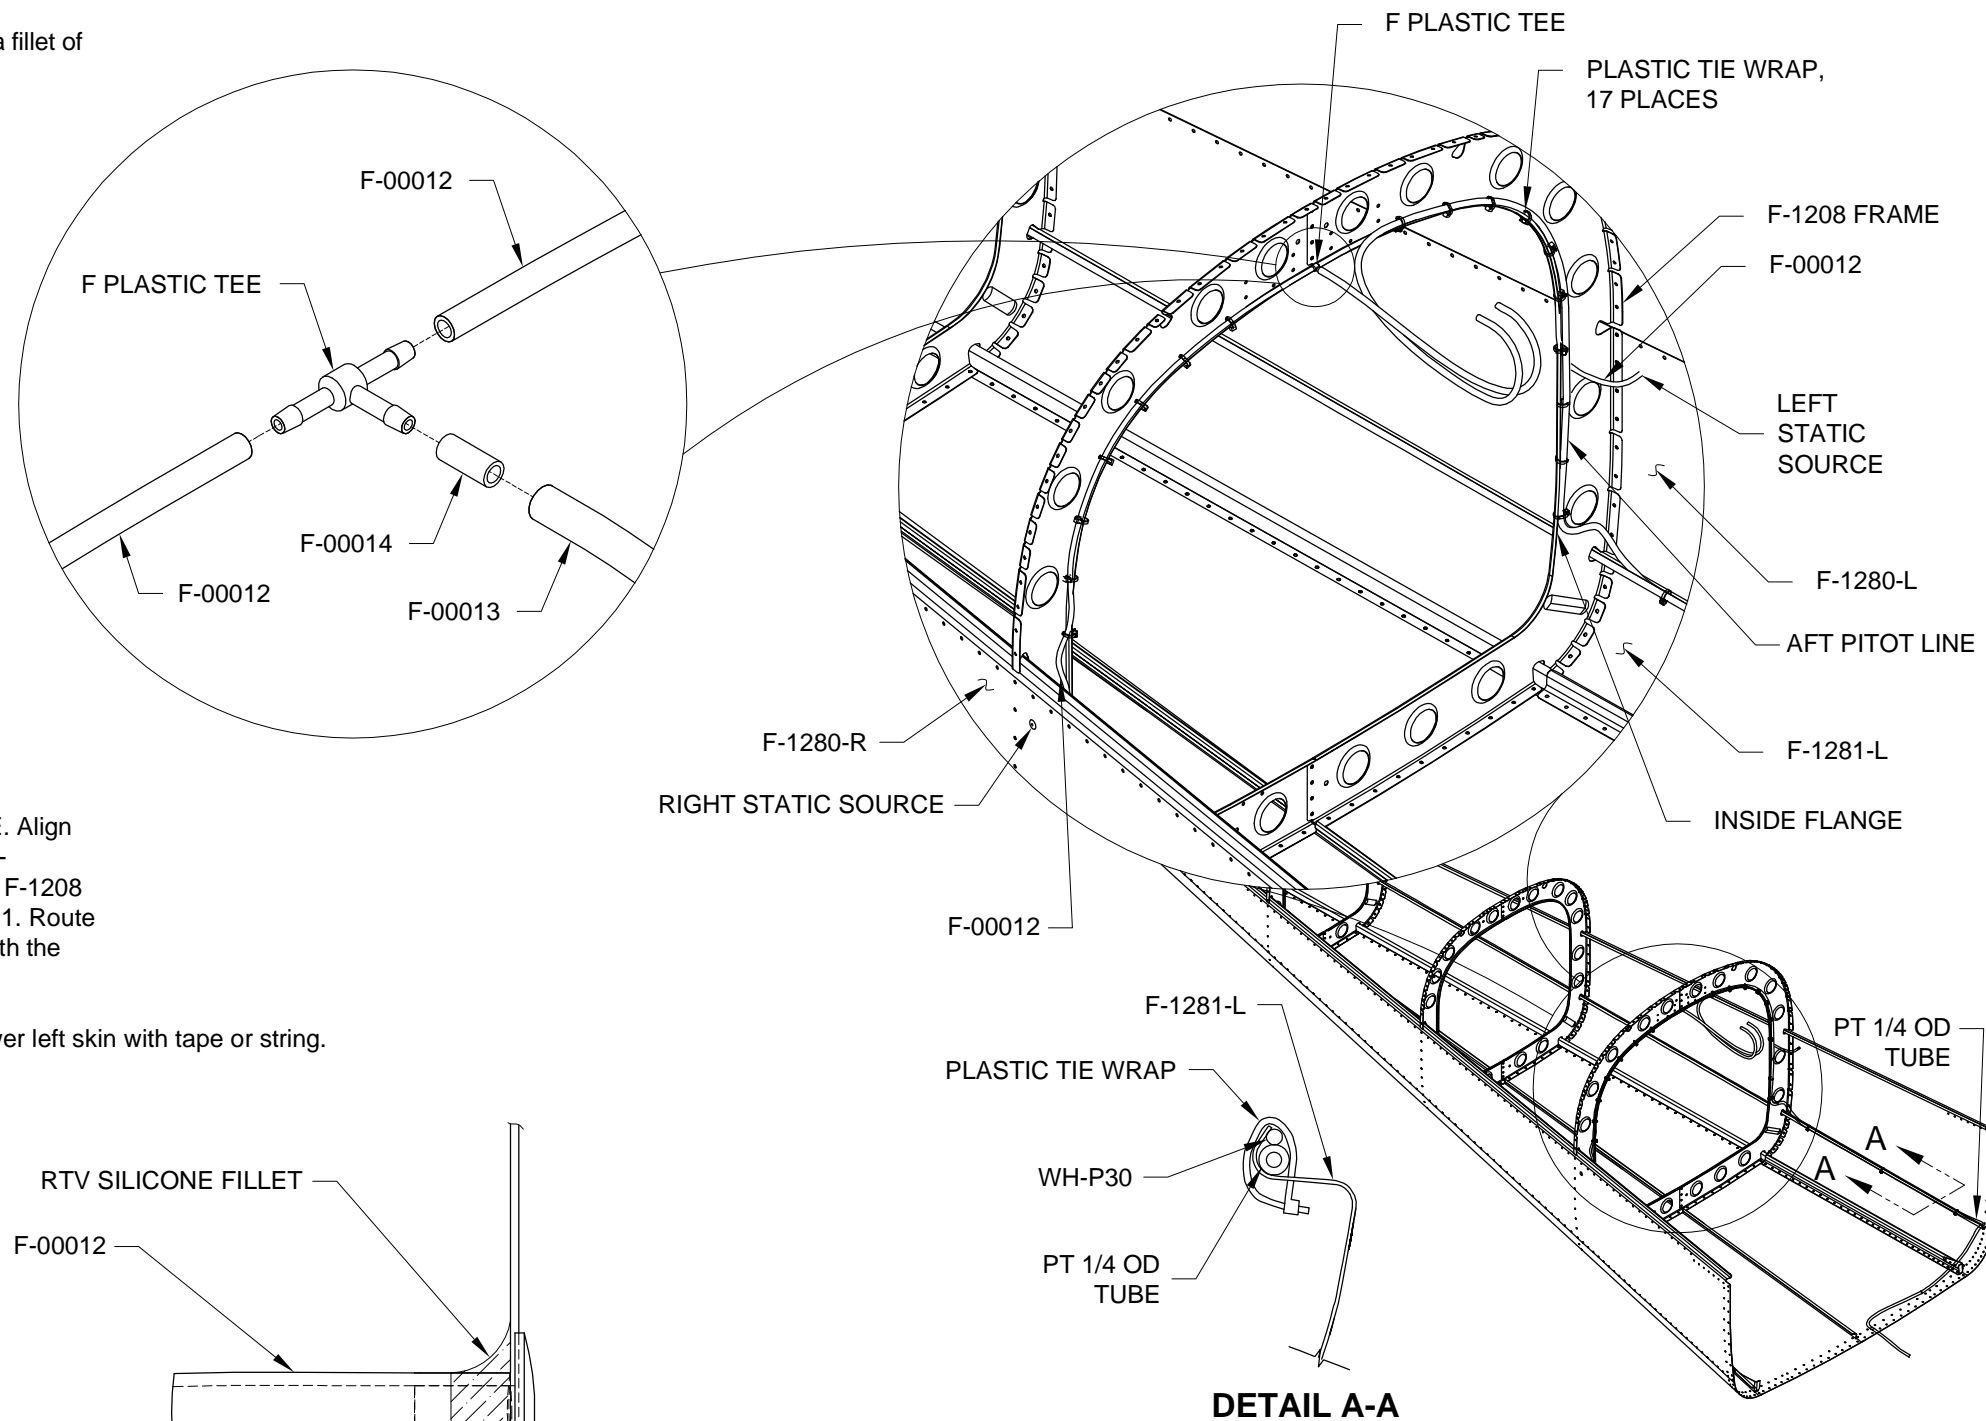

FIGURE 1:
Step 7: The remaining length of PT 1/4 OD TUBE becomes the AFT PITOT LINE. Align one end of the Aft Pitot Line with the forward end of the F-00013 Static Line Tee - ADAHRS. See Figure 1. Route the Aft Pitot Line outboard and down the left side F-1208 Frame then to the J-stiffener of the F-1281-L Lower Left Skin as shown in Figure 1. Route the Aft Pitot Line forward, running inside the J-stiffener 'hook' of the lower skin with the WH-P30, as shown in Detail A-A to the forward edge of the existing structure.